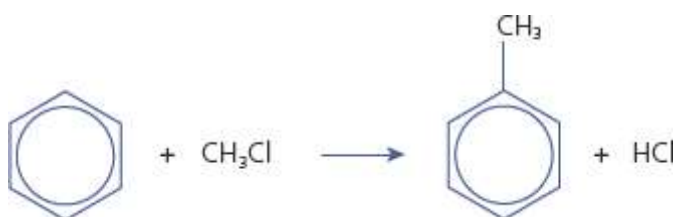

Figure 30.10
- Benzene can be **alkylated** by reaction with a halogenoalkane (Figure 30.10), such as chloromethane, in the presence of an aluminium chloride catalyst to form methylbenzene.